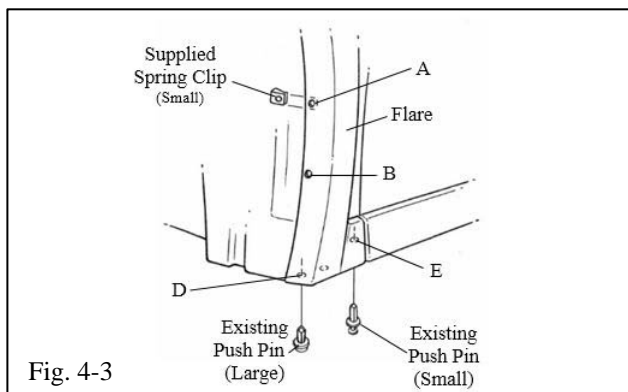

Fig. 4-3
- (g) Reinstall previously removed push pins from Location “D” (Large) and “E” (Small) (Fig 4-3).